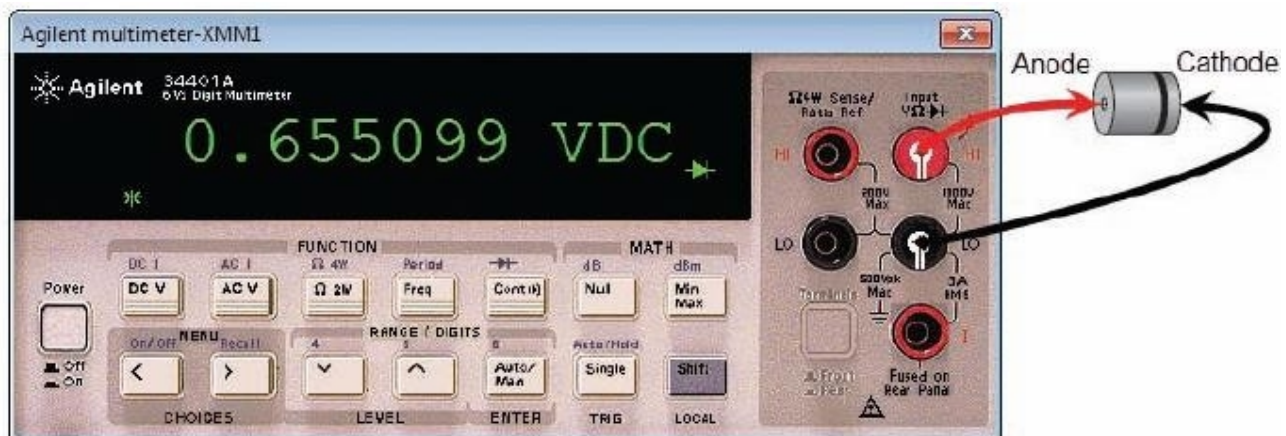

Figure-28
- When the meter is set to this range, it supplies a constant current of approximately 1 mA to whatever device is connected to its leads. When forward biased, the DMM will display the pn junction's forward voltage V_F shown in Figure-28. This forward voltage will generally be between **0.5 V** and **0.7 V** for normal silicon pn-junction diodes.